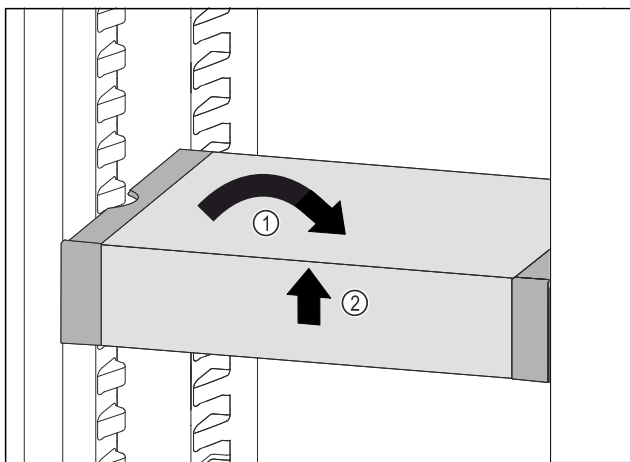

Fig. 140
- ▶ Set VarioSafe straight. Fig. 140 (1)
- ▶ Lift VarioSafe at the front. Fig. 140 (2)